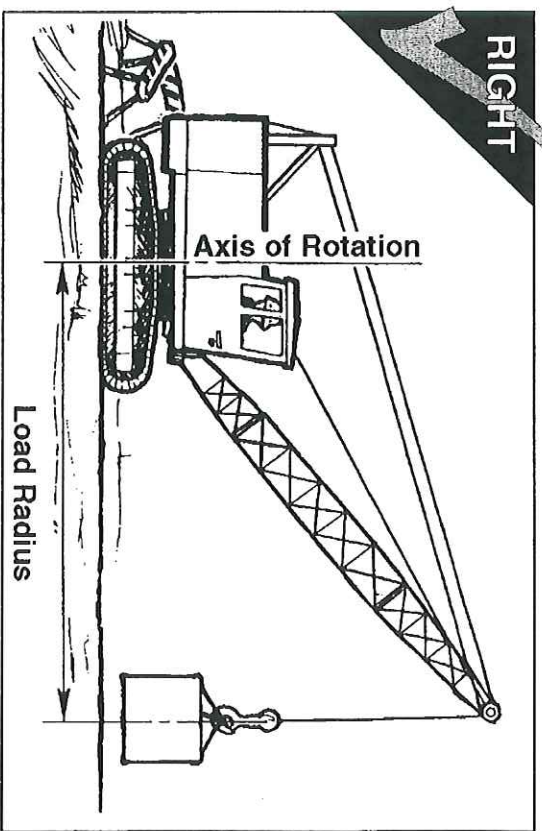

FIG. 20
- **The load is** within load chart rating for the boom length and load radius of the machine. Know the load radius. Load radius is measured from the axis of rotation to the center of vertical hoist line with load applied. (FIG. 20)
- **The hoist line** is vertical before starting to lift. (FIG. 20)